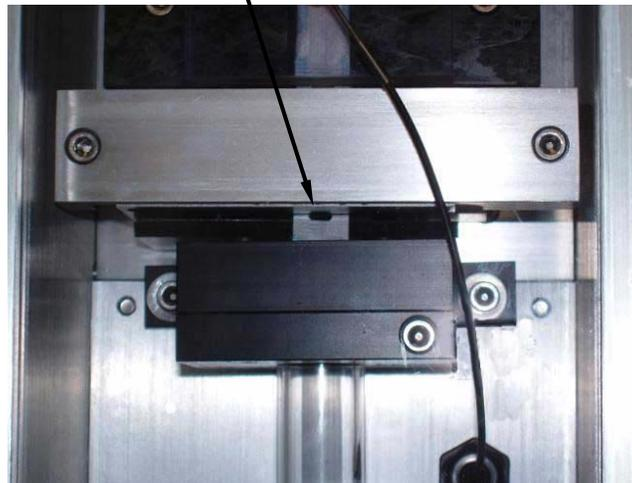

Figure 6.5
- Use the Feed function to move the packet down to the cutoff blade (press F1 one or more times). Look at the cutting area (fig. 6.5) to make sure the packet will be cut in the proper place. If necessary, adjust the Offset (see Section 5D) to correct any error before actually cutting a packet. If the packet appears to be below the desired cutoff point, make the offset value smaller. If the packet appears to be above the cutoff point, make the offset value larger.